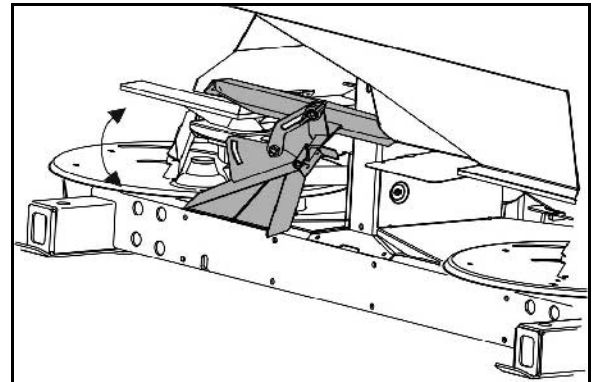

Fig. 29
5. Place the PTO shaft in the holder provided (Fig. 29/1).